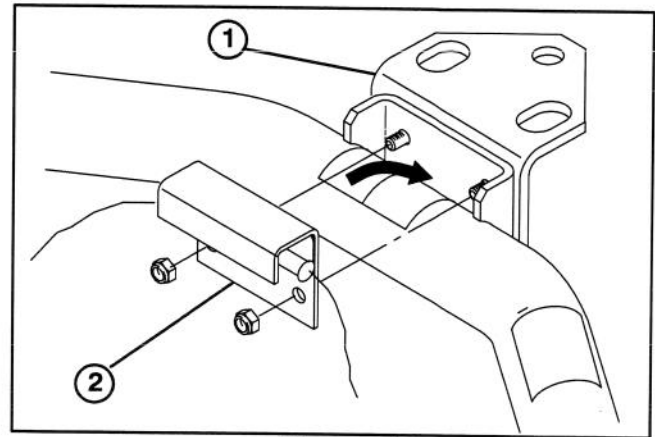

Figure 5
20. Remove locknuts securing hitch plate to rear axle (Fig. 5). Loosely mount rear harness switch bracket to rear axle with locknuts removed.